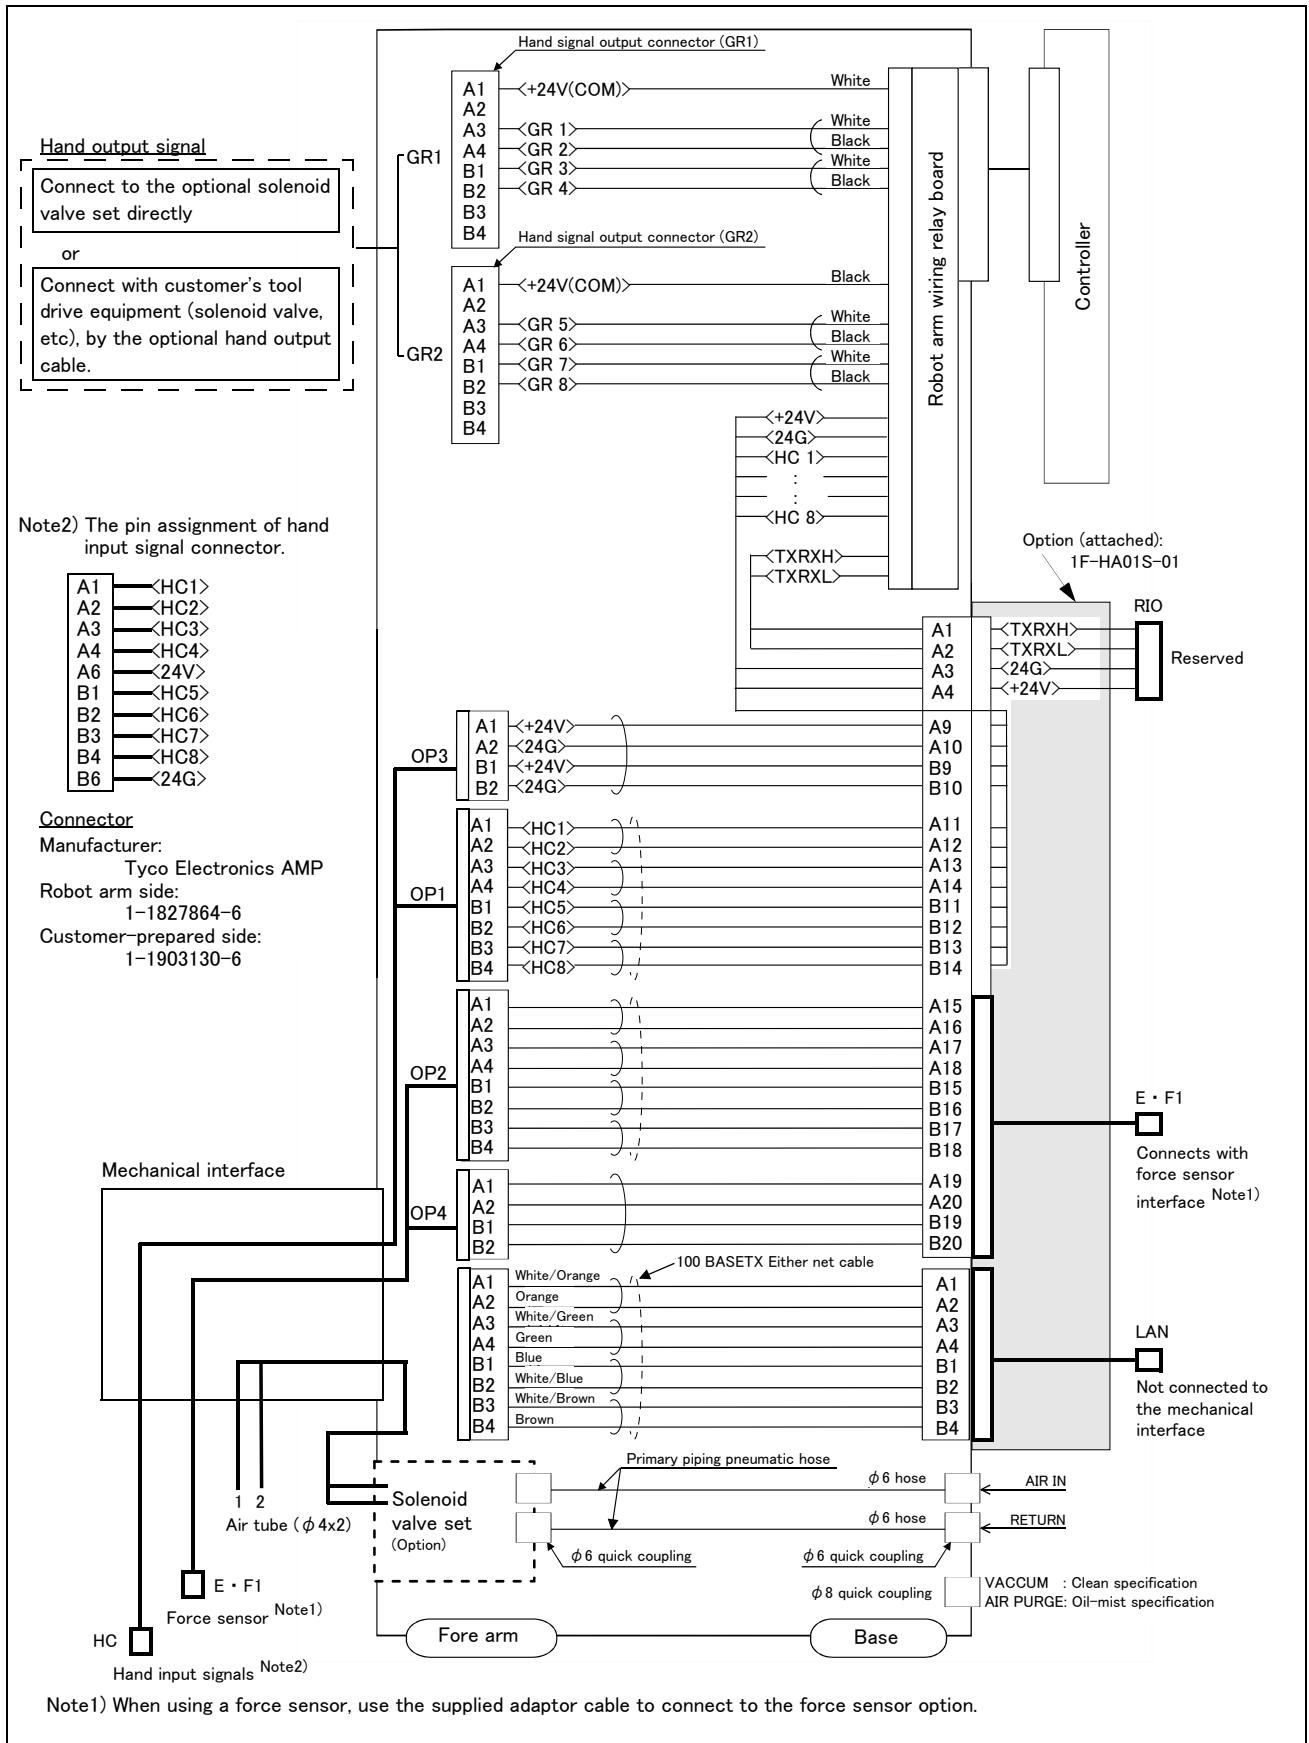

Fig.2-36 : Wiring and piping system diagram for hand and example the solenoid valve installation: RV-4F/7F/13F series SH04
*3) Refer to Fig. 2-36 for pin assignment of the hand input cable (HC).